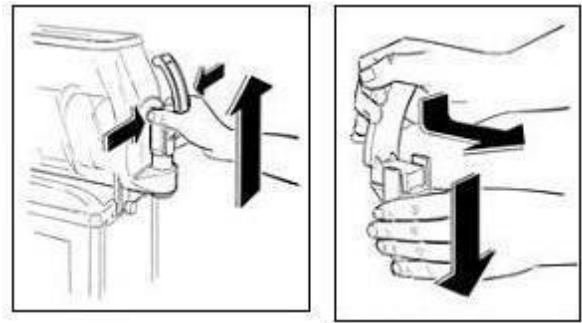

Fig. 6
- **S**imultaneously press the two securing tabs and lift the tap to extract it from its seat (see fig.6).
- **D**isassemble the tap by keeping the body pressed down and slipping the lever from its seat (fig.6).